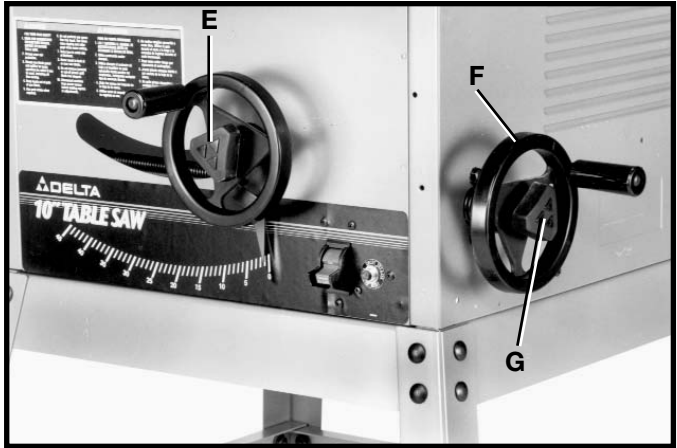

Fig. 8
2. Assemble flat washer (not shown), and lock knob (E) Fig. 8, on end of raising screw shaft.
3. Assemble tilting screw handwheel (F), flat washer (not shown), and lock knob (G) Fig. 8, to the blade tilting screw shaft in the same manner, as shown in Fig. 8.